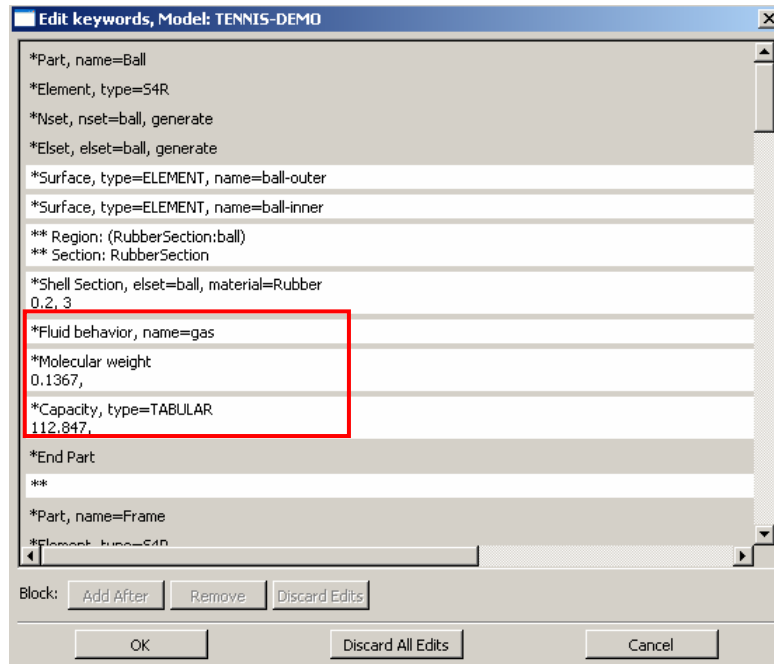

Figure W-28 Keyword Editor window
2. In the **Edit Keywords** window, enter the following keywords as shown in Figures W-28, W-29 and W-30. After entering all the keywords click **Ok**.